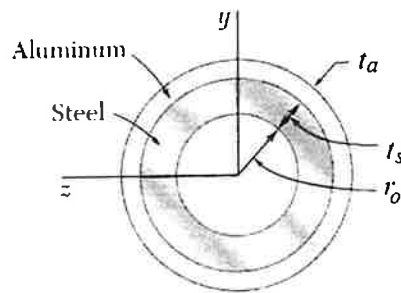

Fig. 1
1. A steel pipe of thickness  $t_s$  and an aluminum pipe of thickness  $t_a$  are securely bonded together to form a composite cylinder. The aluminum pipe has an inner radius  $r_o$ , and the cross-section of the composite cylinder is shown in Fig.1. For the steel, the Young's modulus is  $E_s$  and the Poisson's ratio is  $\nu_o$ , while for the aluminum, the Young's modulus is  $E_a$  and the Poisson's ratio is also  $\nu_o$ .